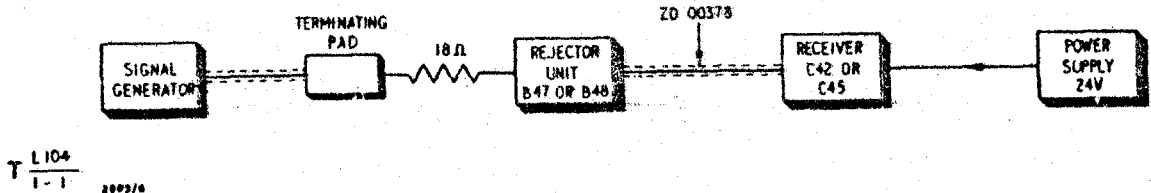

Fig 1 - Rejection test
- (d) Insert the rejector unit between the signal generator and the receiver input (Fig 1).